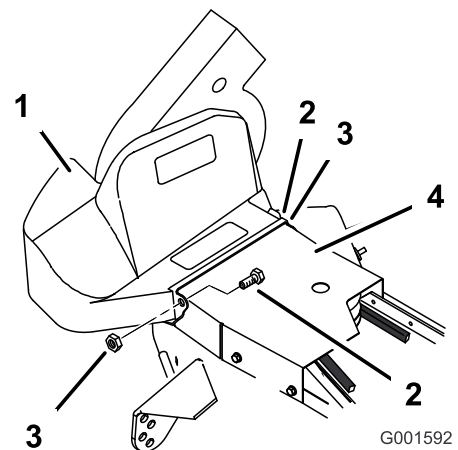

Figure 11
3. Mount the blower belt cover using two (1/4 x 5/8 inch) bolts and two (1/4 inch) locknuts (Figure 11). Tighten the locknuts slightly so light drag is felt on the belt cover when it is tilted upward. The cover must close freely when assembled.